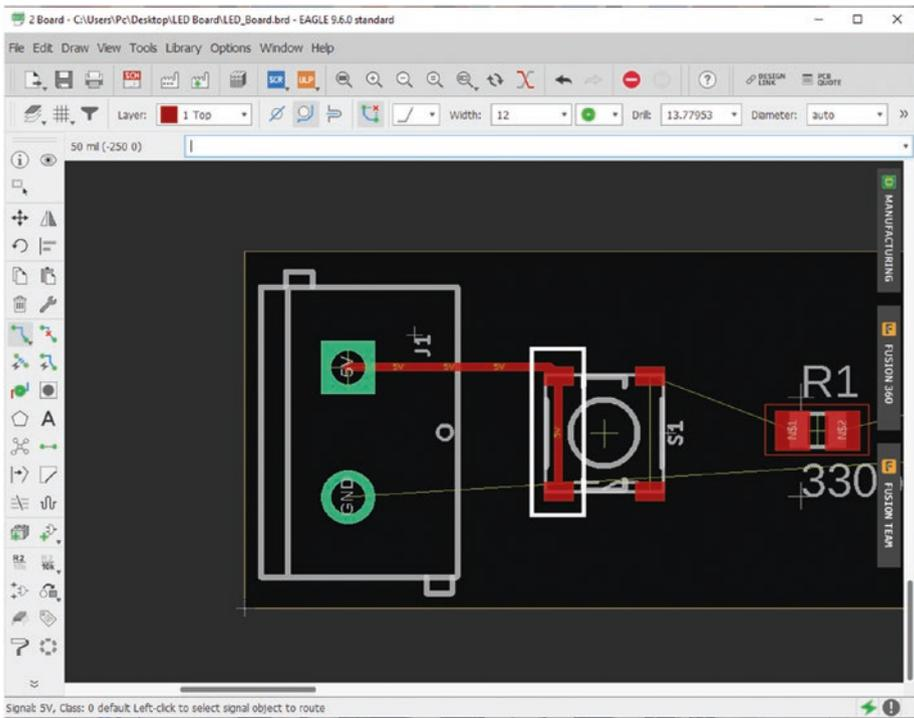

Figure 5-72. Connect 5V lines
21. Left-click from the 5V contact on the push button (S1) and drag your mouse to connect the route to the other 5V contact on the push button (S1). See Figure 5-72.